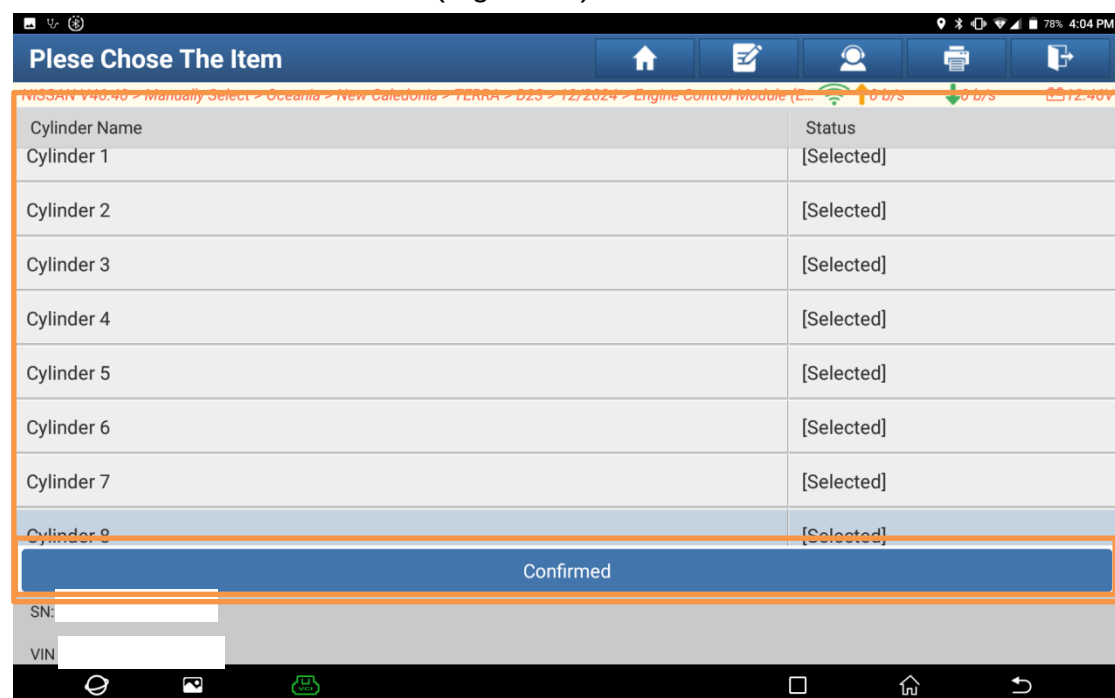

Figure 14
9. On the cylinder selection interface, select the cylinders to be tested based on actual requirements, and then click "Confirmed" to return to the power balance function interface (Figure 14).